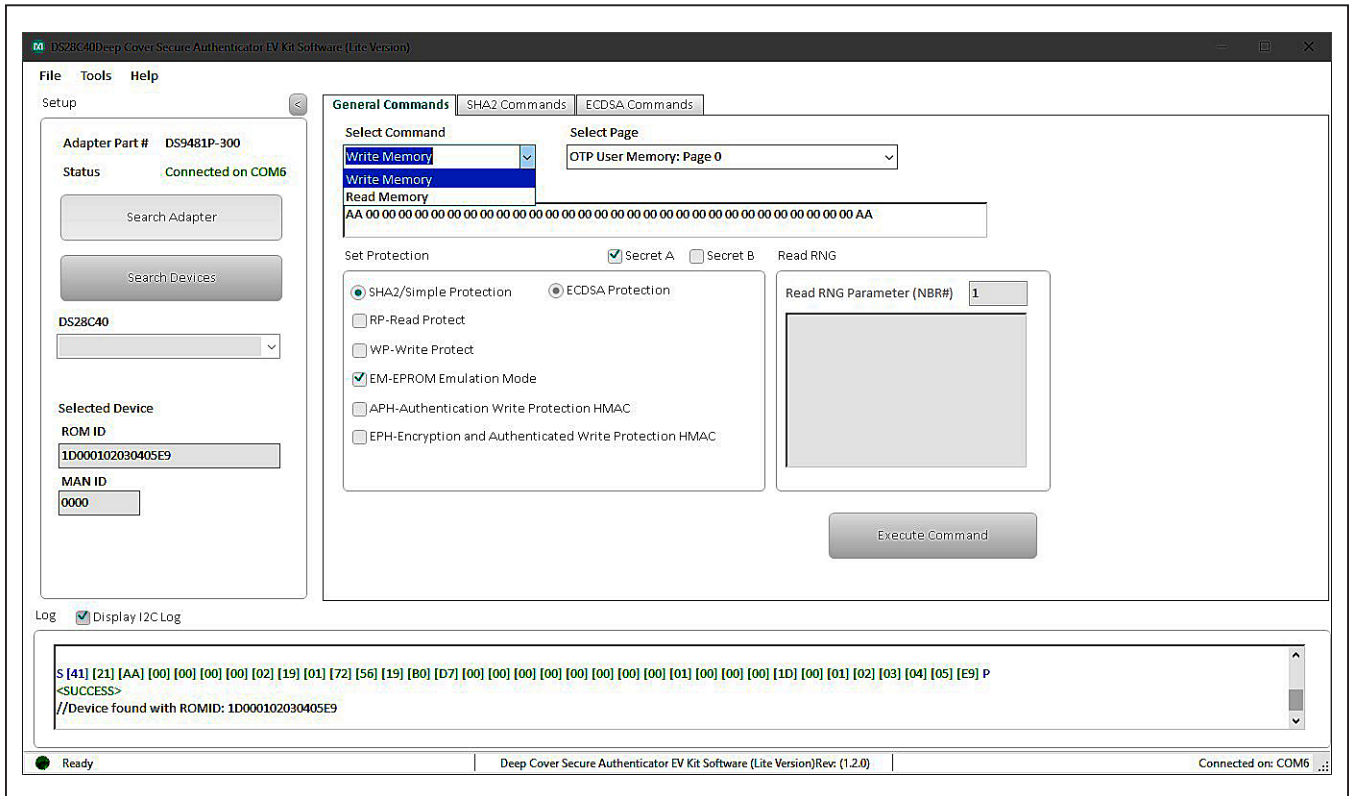

Figure 13. Selecting Command
- 1) Select the **General Commands** tab (Figure 13).
- 2) Select the **Write Memory** command from the combo box selection (Figure 13).
- 1) Under the **General Commands** tab, in the **Select Command** drop-down menu, select **Write Memory** (Figure 13).